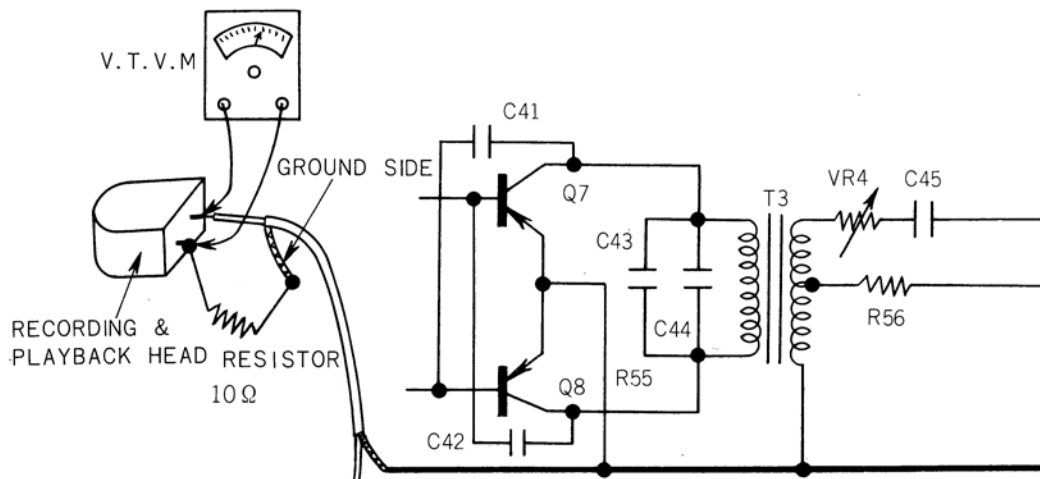

Fig. 8
- Measure the voltage after connecting V.T.V.M (vacuum tube voltmeter) as shown in Fig. 8. and adjust the semi-fixed resistor (VR4) so that the voltage shows the value indicated 40mV.